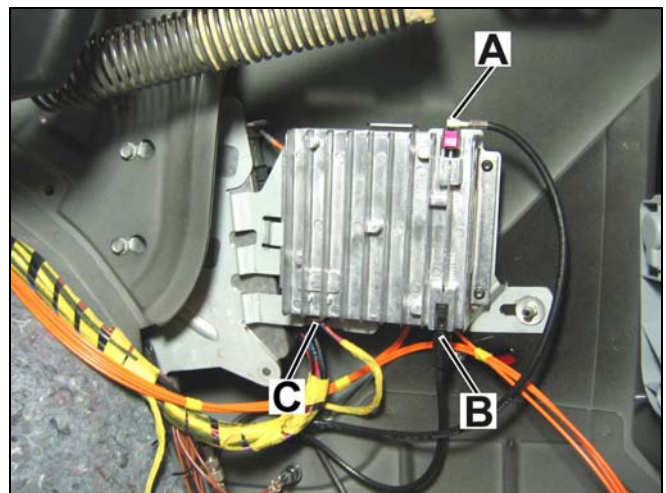

Figure 25
5. Connect the right-angled, female FAKRA connector to the linear compensator jack labeled “ANTENNA” (A, Figure 25).
6. Connect the straight, male FAKRA connector to the linear compensator jack labeled “PORTABLE” (B, Figure 25).
7. Connect the power supply cable to the linear compensator (C, Figure 25).